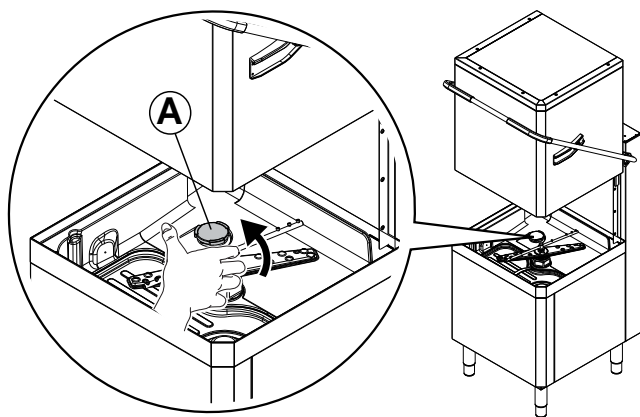

Figure 27 Unscrew the salt container cap
- Unscrew cap "A" (Figure 27) of the salt container, turning it anticlockwise.